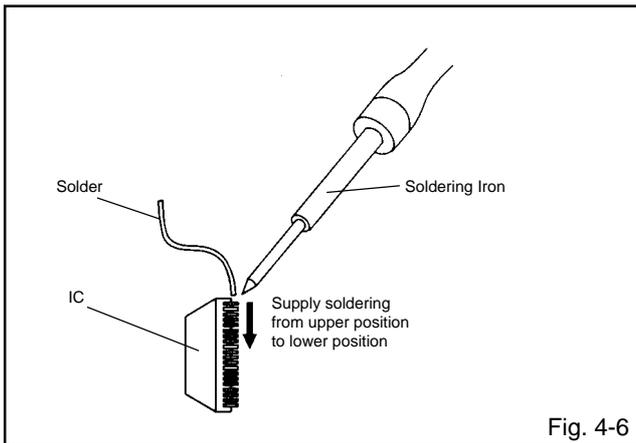

Fig. 4-6
2. Supply the solder from the upper position of IC leads sliding to the lower position of the IC leads. **(Refer to Fig. 4-6.)**